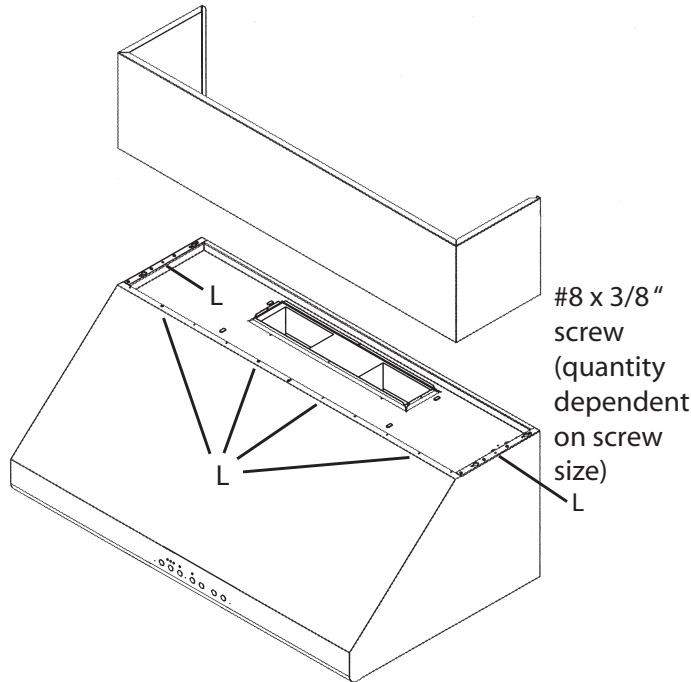

Figure 10: Attachment of Duct Cover(s) to Hood
Optional duct covers shown in Figure 10 may be used to fill the space between the hood and ceiling in wall mount installations. 6" and 12" high duct covers are available and may be ordered separately.
2. Attach the duct cover(s) to the hood using sheet metal screws as shown in Figure 10.
3. From inside of hood, insert screws supplied (#8 x 5/8") through holes labeled "L," one (1) on each side and four (4) along the front, into bottom of the cover.